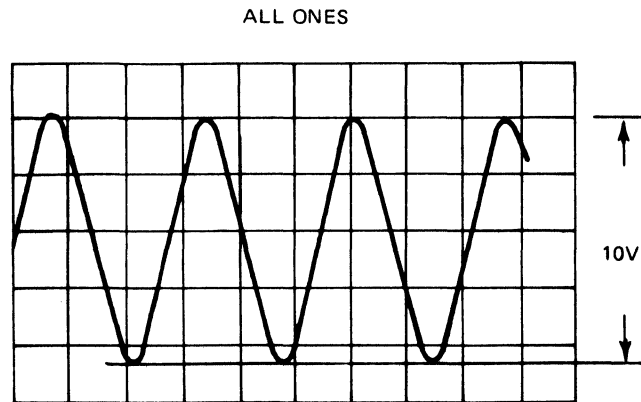

Figure 5-4. Amplifier Waveforms (TP101)
- h. Adjust potentiometer R117 until the analog signal displayed on the oscilloscope is 10 volts peak to peak (see figure 5-4).